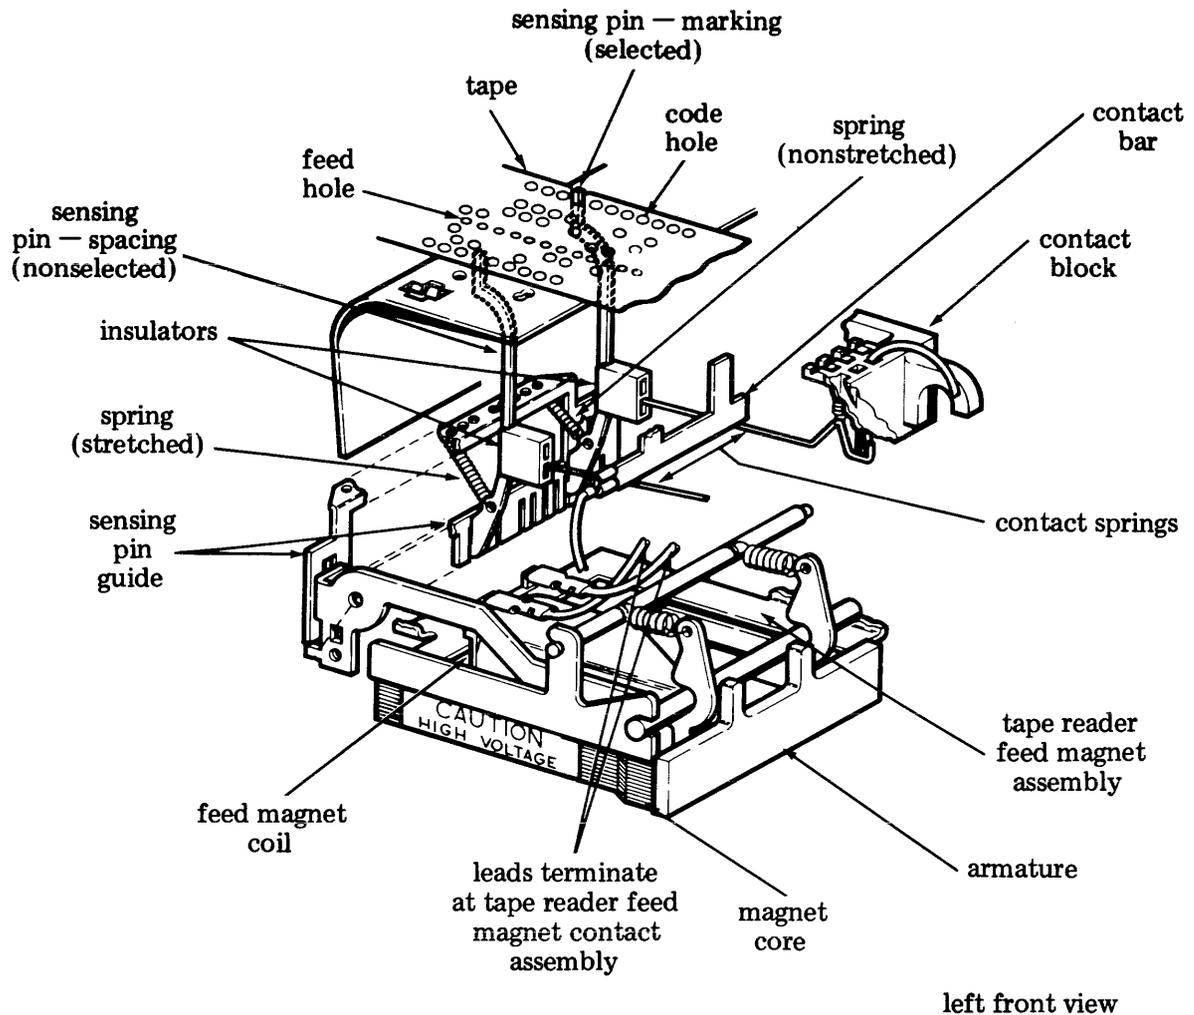

Figure 5 - Feed Magnet and Sensing Mechanisms
3.09 When the feed magnet contacts (on the distributor trip mechanism) close, the feed magnet coil in the reader mechanism is activated. The now energized feed magnet coil attracts the armature (Figure 5). As the armature is attracted to the coil it raises the armature extensions. Fastened to the ends of these armature extensions is a sensing pin guide.